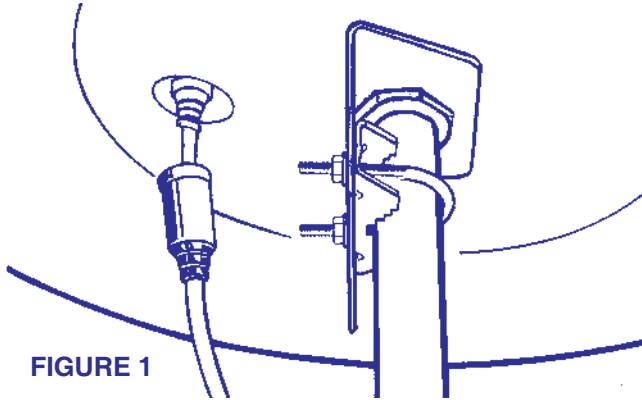

FIGURE 1
**STEP 1:** Attach mounting bracket to bottom of antenna as shown in Figure 1 and mount antenna on mast. The tab on the plastic screw and notch on the bracket ensure a secure connection. Use center set of holes on bracket. Tighten U-bolt. Connect download to jack on antenna, slide weather boot over boot collar.